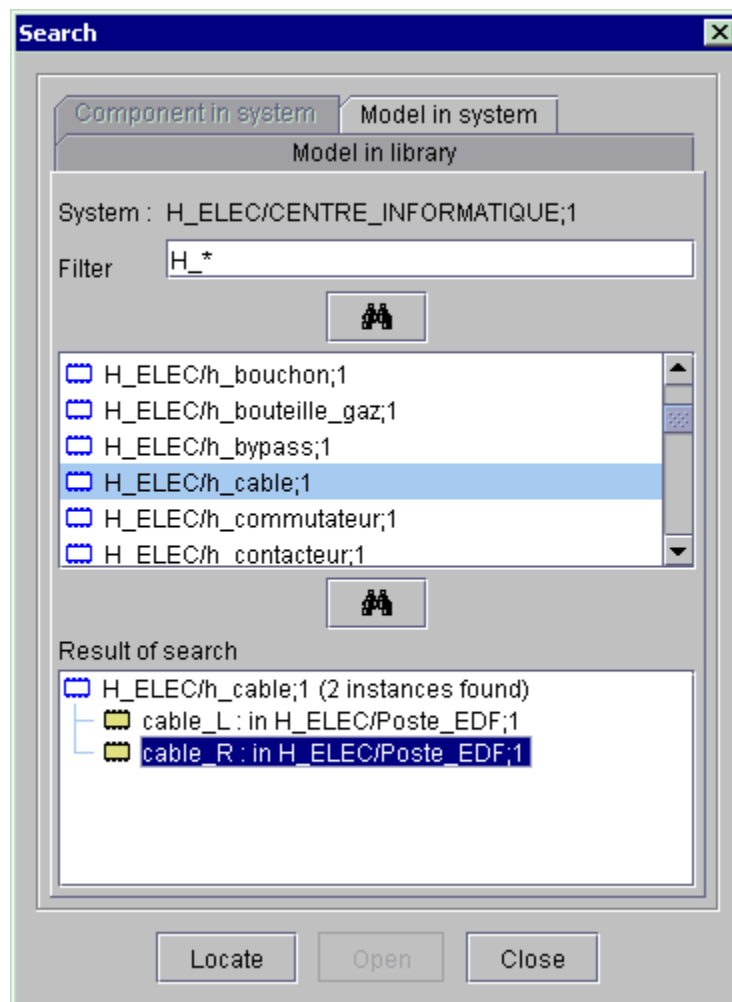

Figure 171 : Search window
- ◆ Select the command **Search** from the menu **Edition** or use the shortcut **CTRL + B** from the keyboard or use the command  from the *Standard* toolbar; the **Search** window (Figure 171) is open.